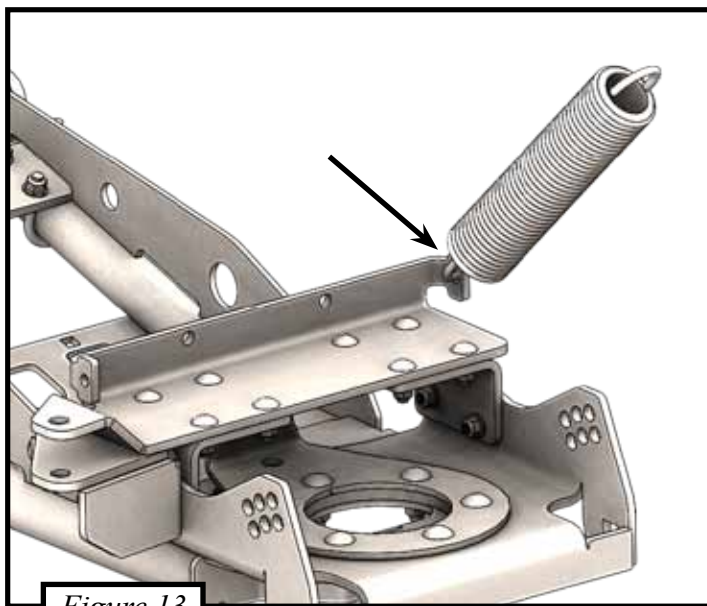

Figure 13
14. When all the brackets are installed you will have to move the spring mounting location. We have added a bend on the top with a hole on each side for your spring to connect to. Shown in *Figure 13*.